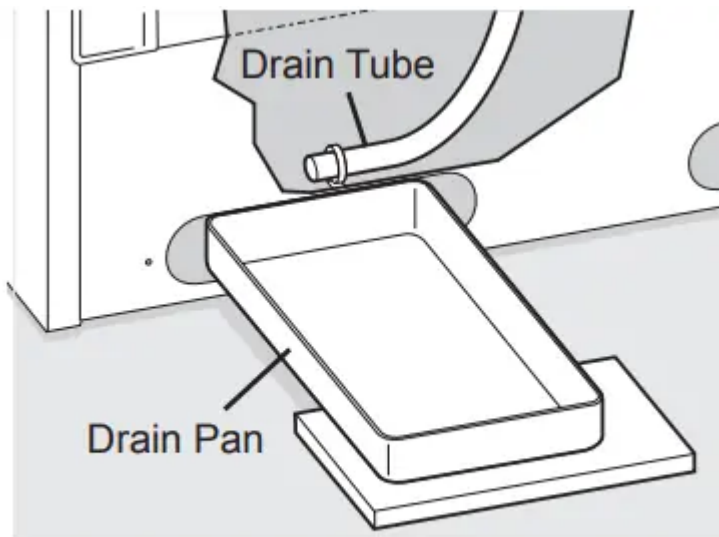

Figure 1
- On upright models with a defrost drain (Figure 1), remove drain plug on the inside floor of the freezer by pulling straight out. To access external drain tube on models with a base panel, first remove the 2 screws from the base panel. Locate the drain tube near the left center under the freezer. Place a shallow pan under the drain tube. Defrost water will drain out. Check pan occasionally so water does not overflow. A $\frac{1}{2}$ inch garden hose adapter can be used to drain the freezer directly into a floor drain. If your model is not equipped with an adapter, one can be purchased at most hardware stores. Replace the drain plug when defrosting and cleaning are completed. If the drain is left open, warm air may enter freezer.